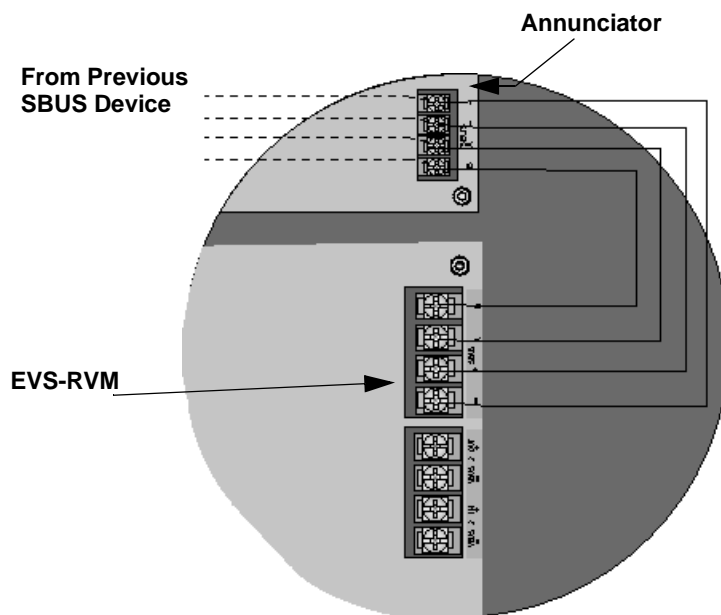

Figure 4-52 SBUS Wiring for EVS-RVM
3. Connect the SBUS to the annunciator and EVS-RVM. See Figure 4-52.